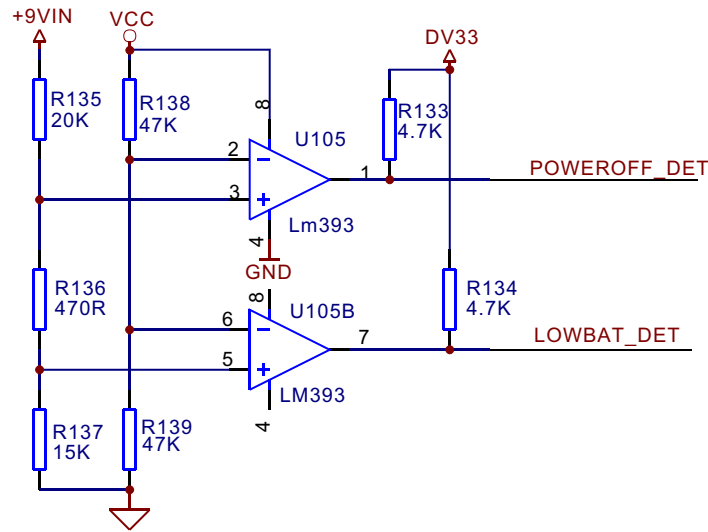

Figure 3.2.5.1 Battery voltage detect circuit
1. Battery voltage detect circuit is shown in the figure 3.2.5.1: